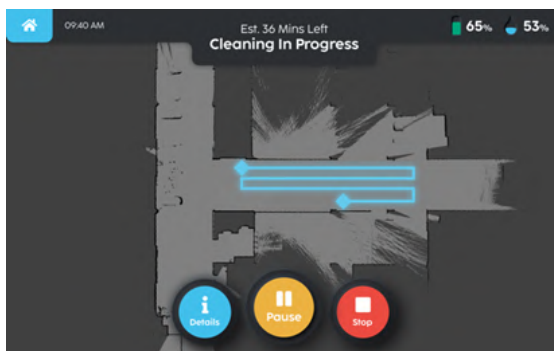

FIGURE 6-8
3. Once you click start, the machine will start the cleaning operation, you may pause or stop the cleaning at any time (**Fig. 6-8**).